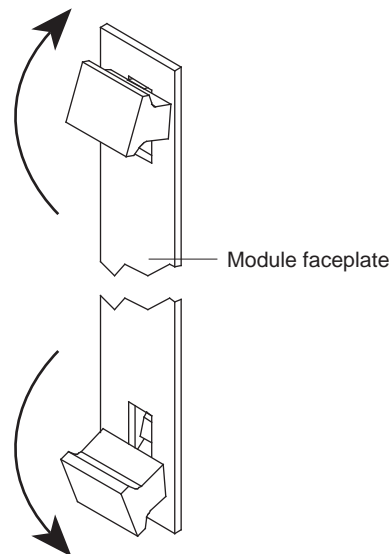

Figure 8 Handles in Inward (Inject) Position
- 7 Relocate the inject handles back to their center position by gently pushing them inward. See Figure 8.